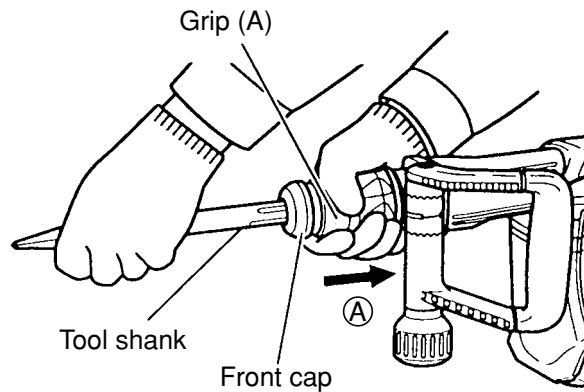

Fig. 9
The Model H 45MR is equipped with a slide-type tool retainer. Tools can be attached and detached just by pulling grip (A). While pulling grip (A) in (A) direction, insert the tool in the hole of the front cap (Fig. 9). Adjust the groove position by turning the tool and push it in to the end. Lock the tool by returning grip (A) back to the original position.